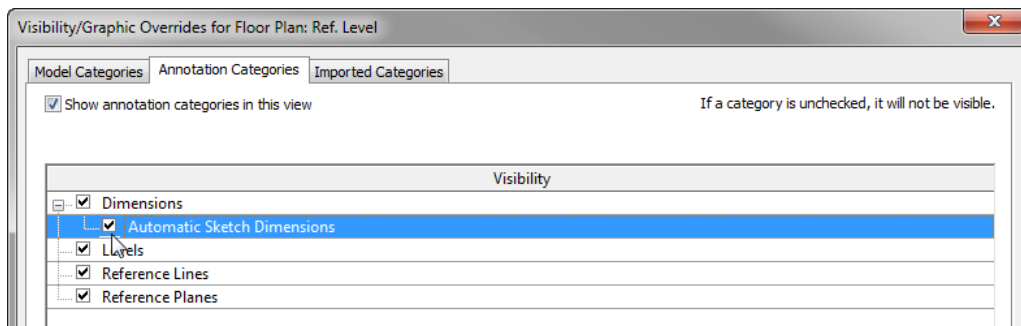

Figure 11—Enable the display of Automatic Sketch Dimensions
9. Beneath the Dimensions category, check the Automatic Sketch Dimensions checkbox and then click OK (see Figure 11).